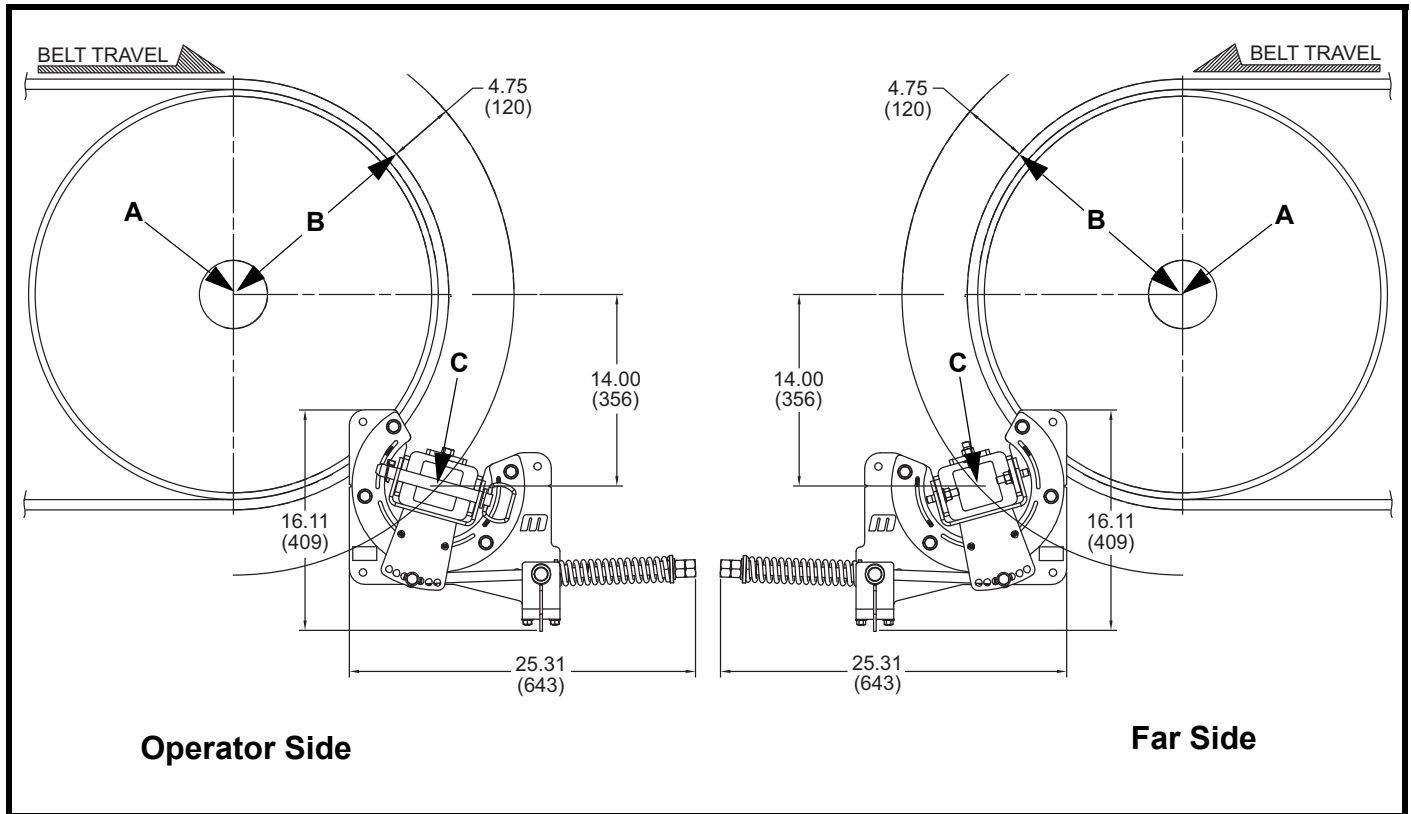

Figure 2. Belt Cleaner Location
1. On operator side of chute, find pulley center point (A).
2. Measure radius of head pulley including lagging and belt thickness (B). To this dimension, add 4.75 in.
3. Starting from center point (A), measure the total distance calculated in step 2 ($B + 4.75$) and draw an arc on chute wall.
4. Measure down from pulley's horizontal centerline the distance shown in Figure 2 and draw a horizontal line parallel to it. Locate center point of belt cleaner mainframe (C) where this line intersects the arc on the chute wall.